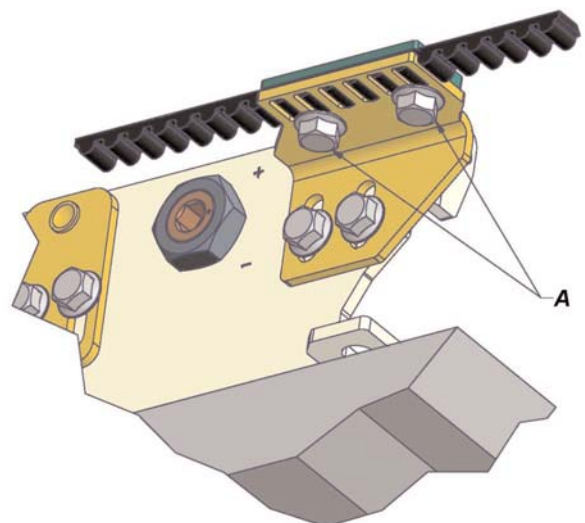

Fig. 20
- Loosen bolts (**Fig.20**) regarding the clamp on the “passing branch” of the belt (joint-less belt branch)
- Firmly tighten the bolt (**Fig.20 part.A**) carefully checking that the belt teeth are correctly inserted in the clamp housings.